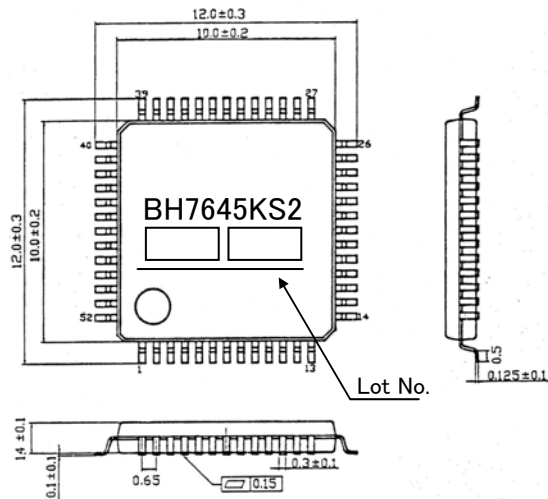

Fig.1 SQFP-T52 ( UNIT:mm )
- Outer dimensions : Fig.1 SQFP-T52